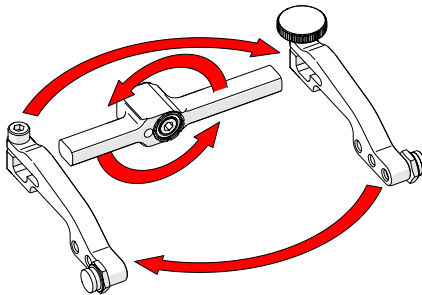

Fig. 118 - Flip yoke and reverse arms
4. Flip the yoke 180° and reverse the probe holder arms (Fig. 118).